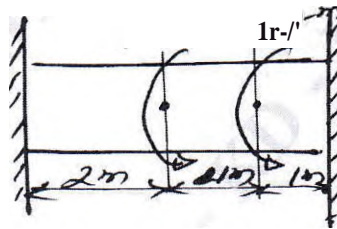

Fig.Q6(b)
- b. A bar of circular cross section having a diameter of 50 mm is firmly fixed at its ends and subjected to a torque as shown in Fig.Q6(b). Determine maximum angle of twist and shear stress. Take $G = 7 \times 10^4 \text{ N/mm}^2$ and $E = 2 \times 10^5 \text{ N/mm}^2$. (10 Marks)